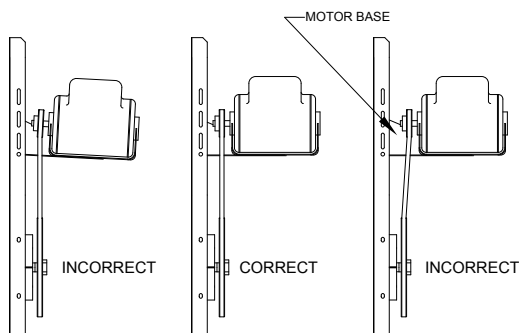

FIGURE 4
2. Mount the motor pulley to the motor so that the pulleys are aligned properly when the motor base is perpendicular to the support angles as shown in Figure 4.